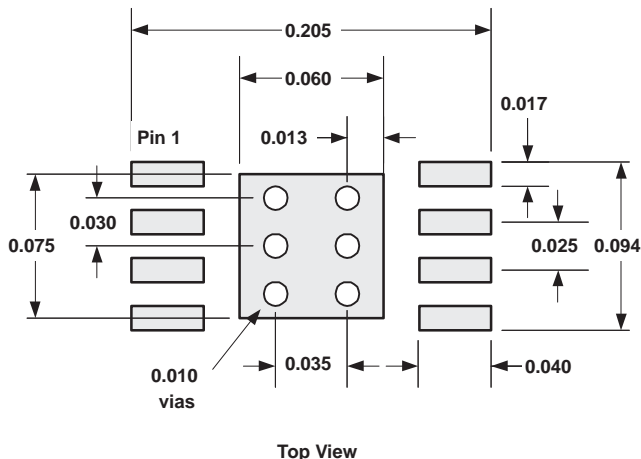
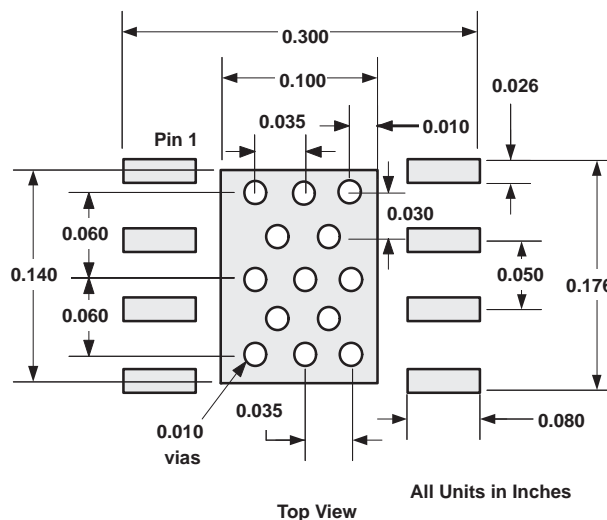

Figure 44. DGN PowerPAD PCB Etch and Via Pattern
Figure 45. DDA PowerPAD PCB Etch and Via Pattern
1. PCB with a top side etch pattern is shown in Figure 44 and Figure 45. There should be etch for the leads and for the thermal pad.